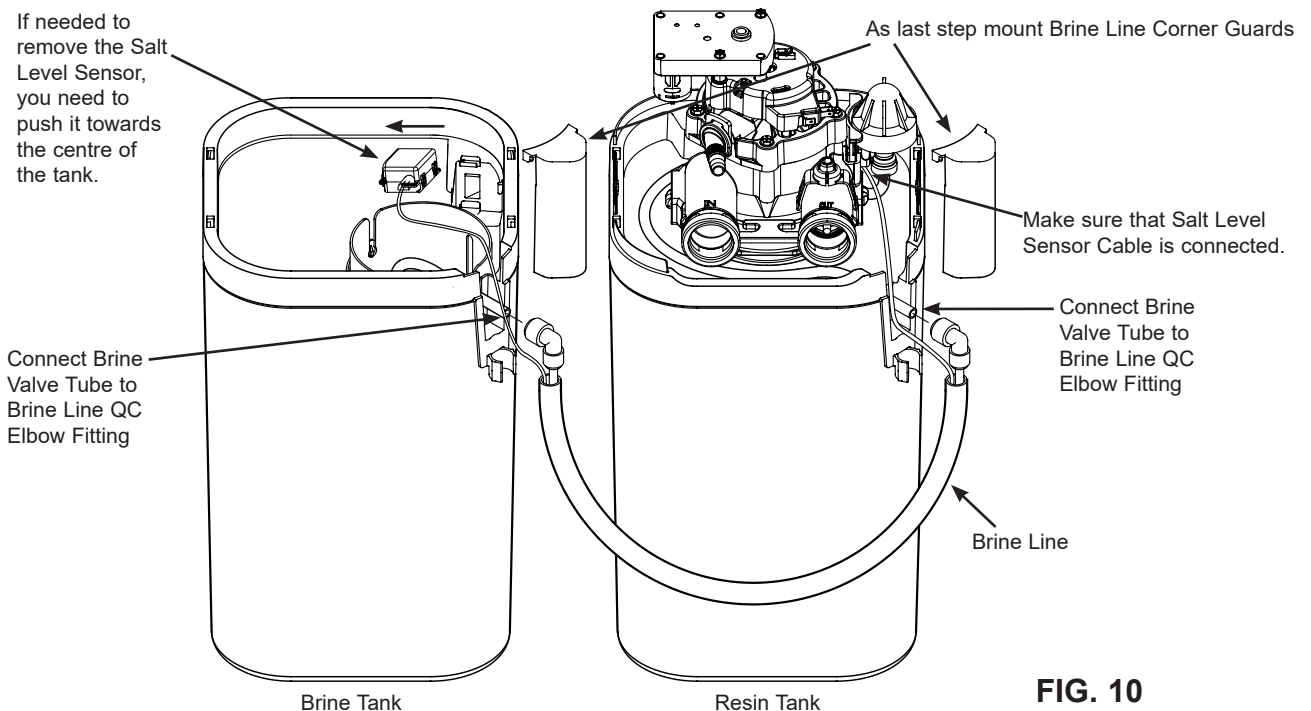

FIG. 10
- a. Locate the 50 cm long piece of 7.9 mm O.D. tubing in the parts bag. Connect one end to the valve's nozzle/venturi quick connect fitting (See Fig. 10). Firmly push the tube end as far as it will go into the fitting (1.7 cm). Pull on the tube to make sure it is engaged. Install the included tube bender directly below the nozzle/venturi. Route the tube around the base of the valve, then through the channel in the rim, and push the loose end out through the rim's corner slot.
- b. Locate the brine line assembly in the parts bag. It has a quick connect elbow fitting at each end. Insert the end of the brine tube that you installed in the previous step into one quick connect fitting of the brine line assembly (See Fig. 10). Firmly push the tube end as far as it will go into the fitting (1.7 cm). Pull on the tube to make sure it is engaged.
- d. Locate the corner guards (2) in the parts bag. Snap a corner guard down onto the rim, covering the tubing connection you just made.